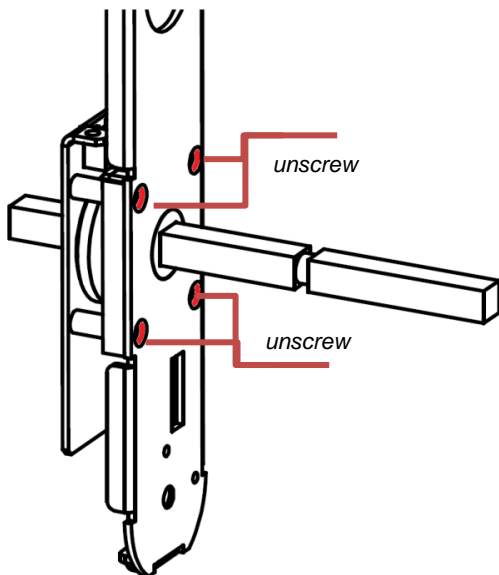

Fig. 11. Opening handle release mechanics
1. Unscrew 4 screws fixing handle release mechanics (See Fig. 11)